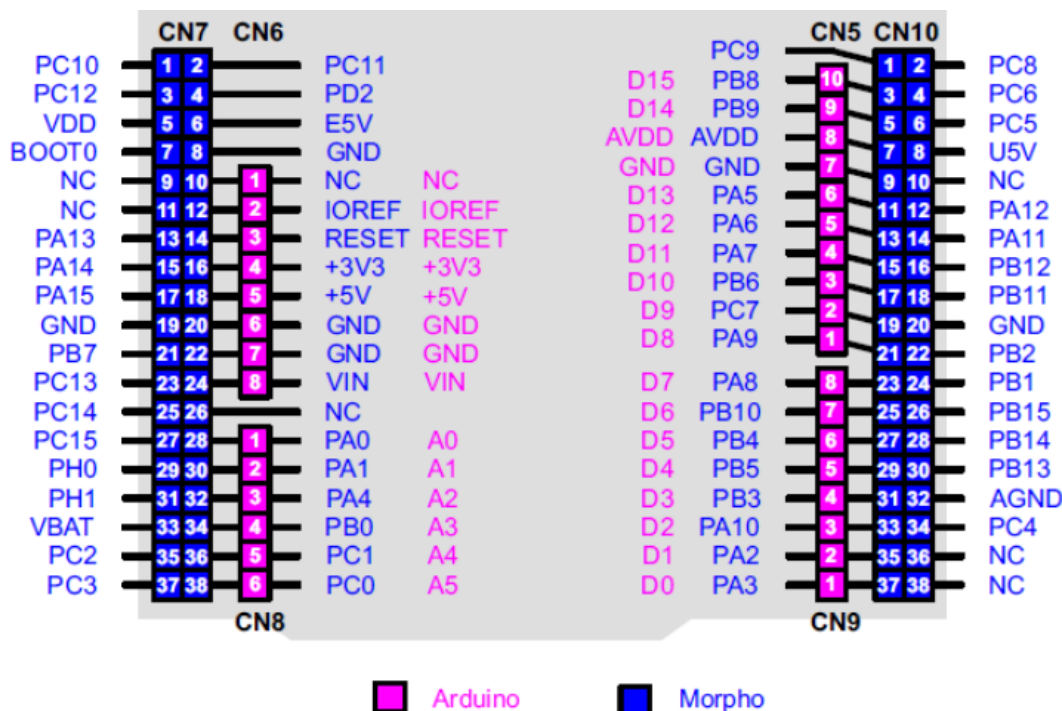

Figure 1: Nucleo-L476RG pinout diagram from user manual.
**Choosing Pins:** When choosing pins for your inputs and outputs, only use pins on Ports A, B or C. To determine the location of pins, refer to Figure 1 below. Note that your code will reference pins using their Morpho names, but the board itself is labeled with the Arduino names. For example, to use PA8, you would reference Port A (GPIOA) pin 8, but the board itself labels that pin as D7. Remember that the blue Button 1 is *already* connected to PC13 and the green LED 2 is *already* connected to PA5.